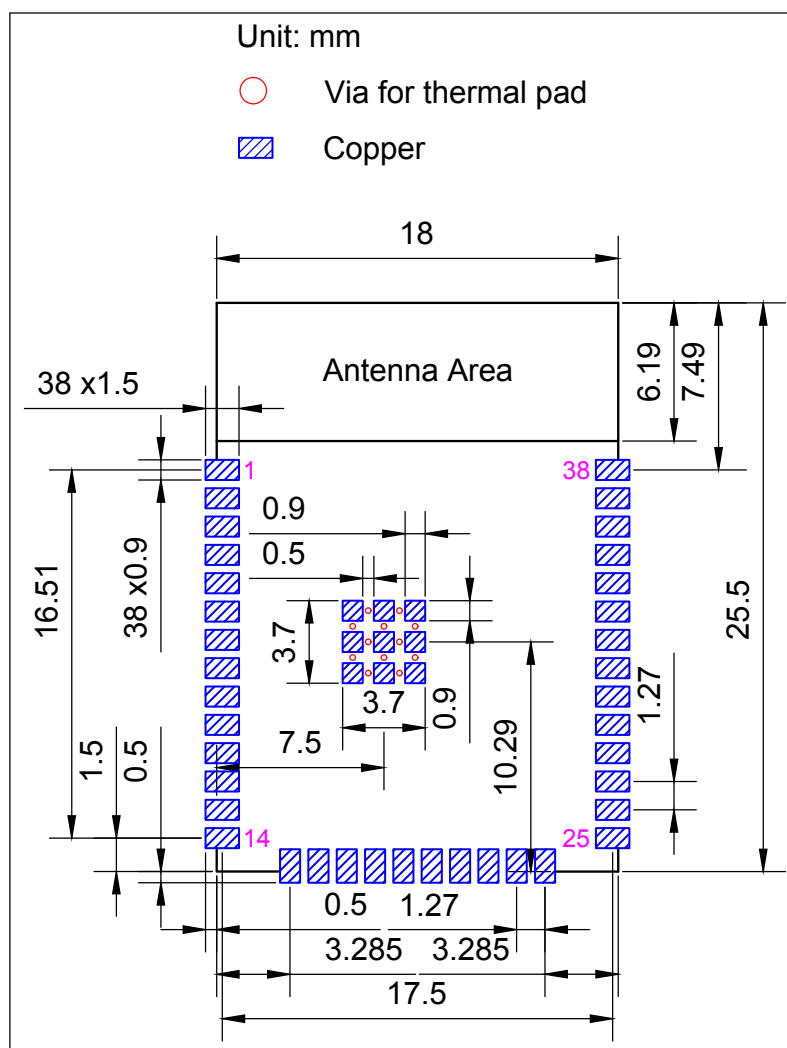
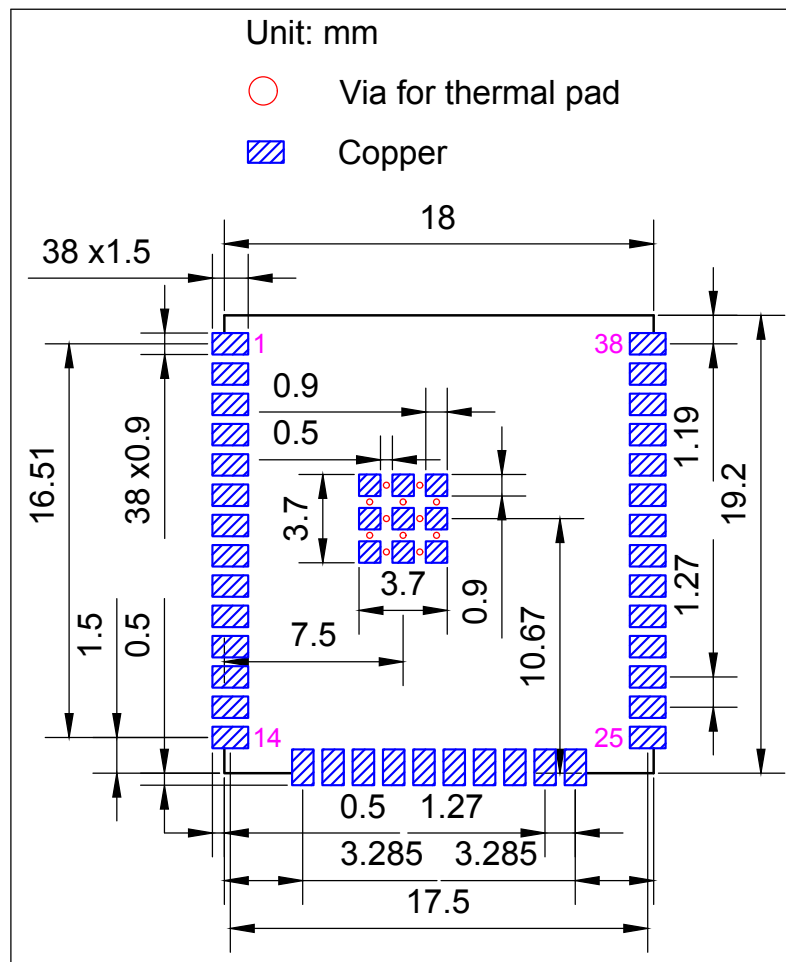

Figure 10: ESP32-WROOM-32E Recommended PCB Land Pattern
Figure 11: ESP32-WROOM-32UE Recommended PCB Land Pattern
- Figures for recommended PCB land patterns with all the dimensions needed for PCB design. See Figure 10 *ESP32-WROOM-32E Recommended PCB Land Pattern* and Figure 11 *ESP32-WROOM-32UE Recommended PCB Land Pattern*.
- Source files of recommended PCB land patterns to measure dimensions not covered in Figure 10 and Figure 11. You can view the source files for ESP32-WROOM-32E and ESP32-WROOM-32UE with Autodesk Viewer.